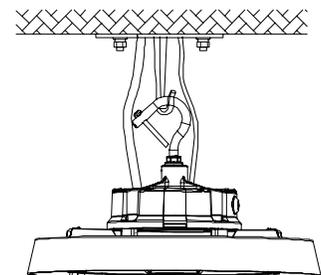

FIGURE 2
2. Hang the fixture on the ceiling hook or chain (Figure 2)